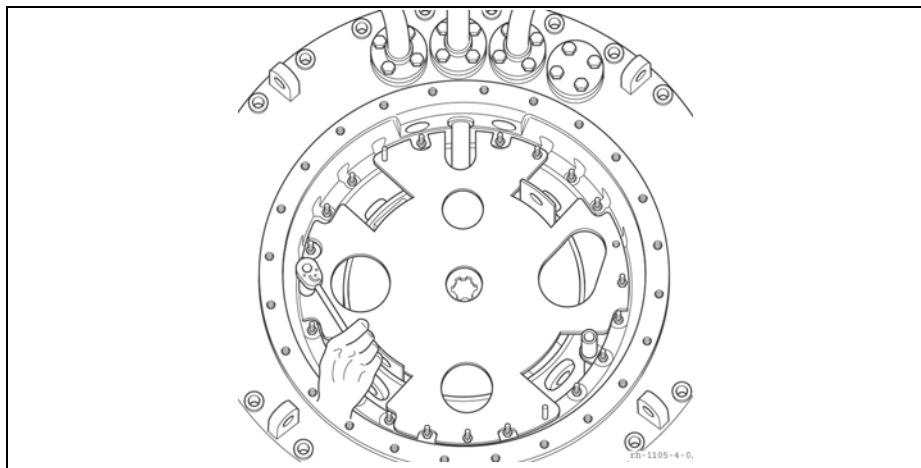

Figure 18 Base plate fixing nuts
5. Remove the fixing nuts of the base plate (4 nuts M8, wrench 13, spring washers, **Figure 18**).